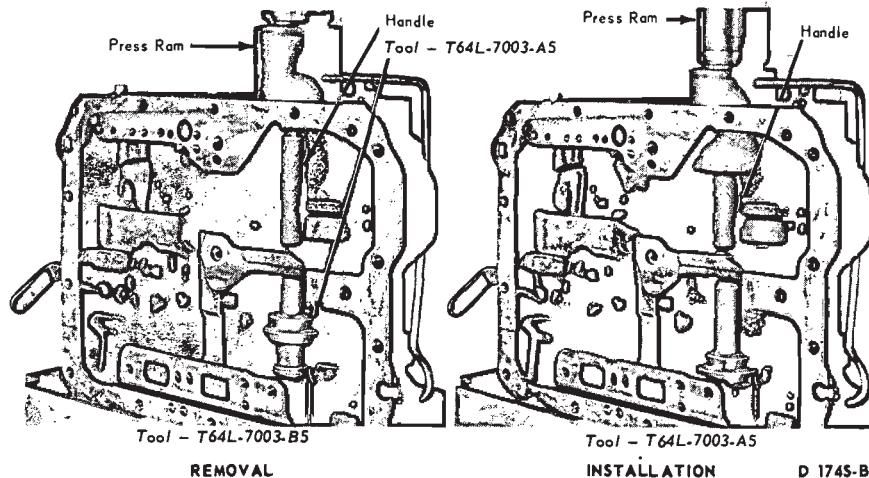

FIG. 54—Replacing Transmission Case Bushing
1. If the transmission case bushing is to be replaced, press the bushing out of the case with the tools shown in Fig. 54.
2. Install a new transmission case bushing with the tool shown in Fig. 54.